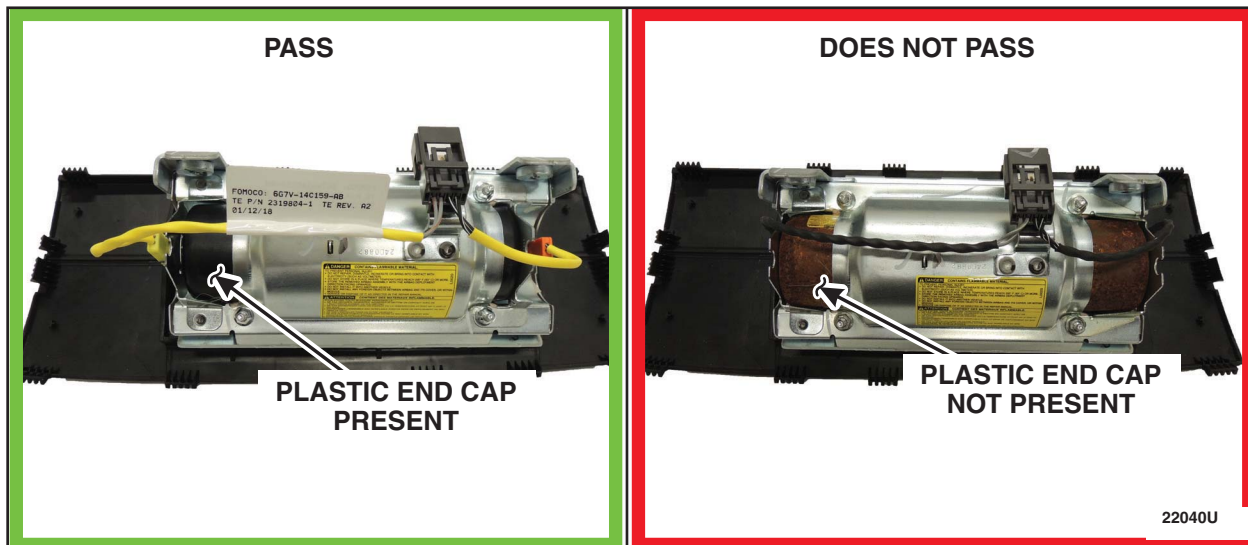

FIGURE 1
3. Inspect the passenger airbag inflator end for the presence of a plastic end cap as shown in Figure 1.
Yes: Inspection **PASS** See Figure 1. - No Repair Is Needed.
No: Inspection **DOES NOT PASS** See Figure 1. – **REPAIR IS REQUIRED.**